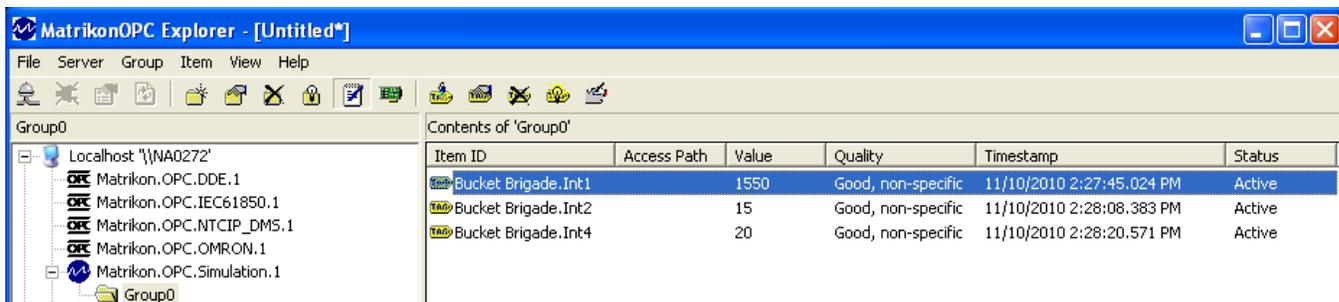

Figure 31 - Verified Value Change in MatrikonOPC Server for Simulation and Testing
9. Verify the value of the **FIC101** data point has changed from **1600** to **1550** (Figure 31).